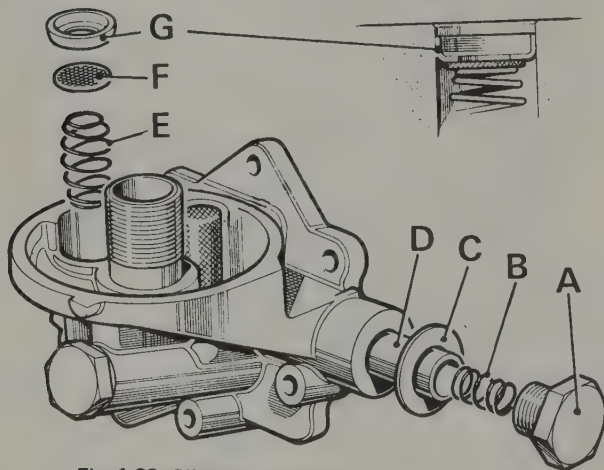

Fig. 1.38. Oil pump cover detail
- 4 Dismantle the pressure relief valve and inspect it for excessive wear and/or scoring, (Fig. 1.38).
- 6 Thoroughly clean the gauze filter housed within the relief valve bore. (Fig. 1.38).